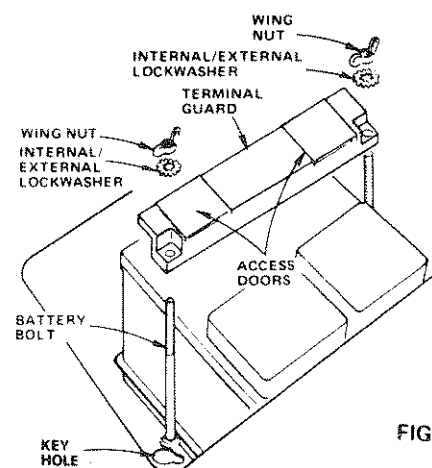

FIGURE 5
- f. Using the key hole on one side of the battery support (Fig. 5) slide battery bolt into frame key hole (head of bolt down). Fasten the battery bolt to the terminal guard using internal/external lockwasher, wing nut, (shown full size on pg. 6) as shown in Fig. 5.
- g. Assemble the remaining battery bolt to other side of battery support and fasten terminal guard to it with remaining internal/external lockwasher and wing nut, (Shown full size on pg. 6). Tighten wing nuts securely by hand (Fig. 5).